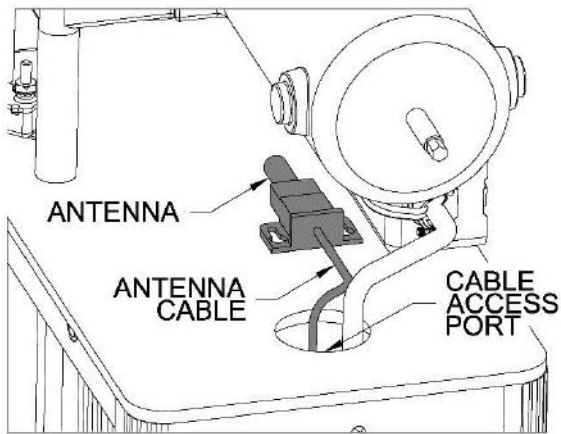

FIG. 8.6
- 8.3.7. Once the mount location for the antenna is determined, remove protective adhesive from hook and loop fastener and press to stick the antenna in place (FIG. 8.6).